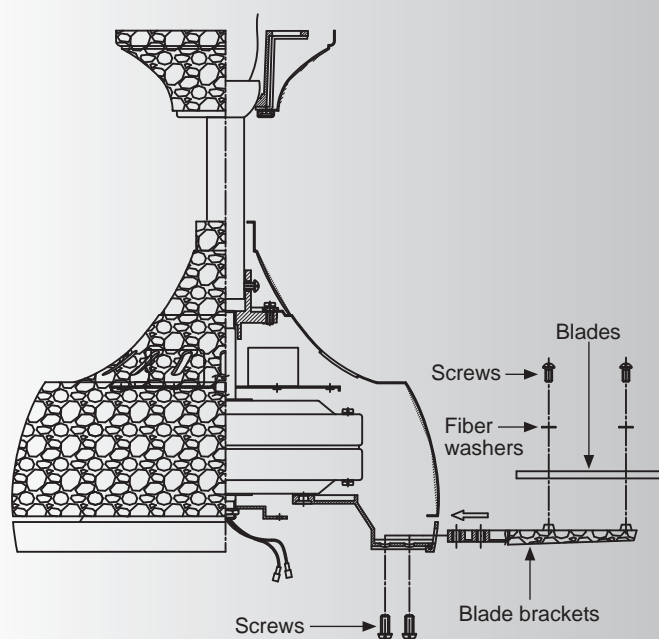

Fig. 16
Step 1. Attach a blade to a blade bracket using the screws and fiber washers provided. (Fig.16)
Step 2. Attach each blade assembly to the motor using the screws provided. (Fig 16)